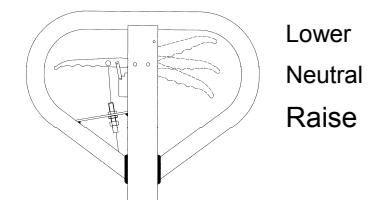

Fig. 7: Lever
If necessary, you can adjust the lever according to following steps (fig. 7):
- c) If the forks do not descent when the control handle is in the **Lower** position, turn the adjusting nut clockwise until raising the control handle lowers the forks. Then check the **Neutral** position according to fig. 7 and be sure that the adjusting nut is in the proper position.